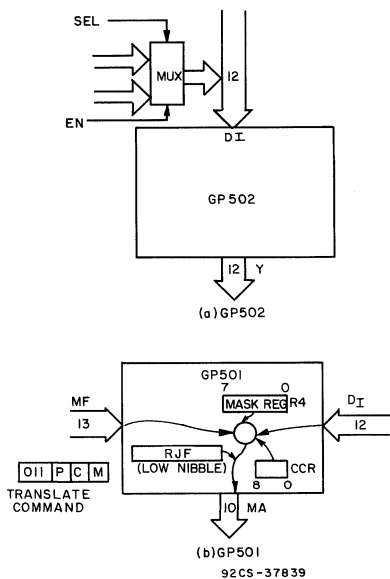

Fig. 20 - Bit insertion.
Bit Insertion - Frequently, subroutines are data dependent; for example, multiply and divide routines require bit-testing. In a GP502 implementation, this data dependence dictates that multiplexing be done to input the bits, Fig. 20(a).
In a GP501 system, Fig. 20(b), the bits are applied directly to the discrete interface (DI); the translate command allows insertion of up to four bits into the least significant bits of the address base. In one group of translate commands, the currently active stack register is not incremented. This feature allows iterative routines where one of a certain number of functions is to be executed until some specific event occurs.